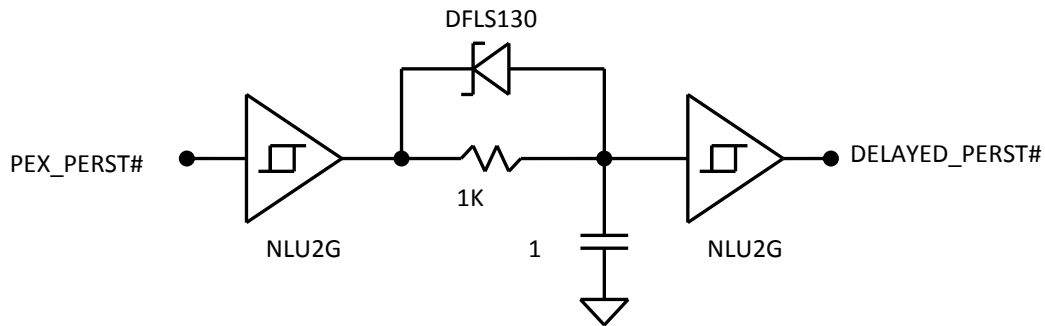

Figure 1. An example circuit to create a delayed version of PEX_PERST# for downstream devices.
3. Create a delayed version of PEX_PERST# using a delay circuit such as the one shown in Figure 1 below. This circuit delays the rising edge of PEX_PERST# input by approximately 1 ms. Adjust resistor/capacitor values as needed to produce the required delay.